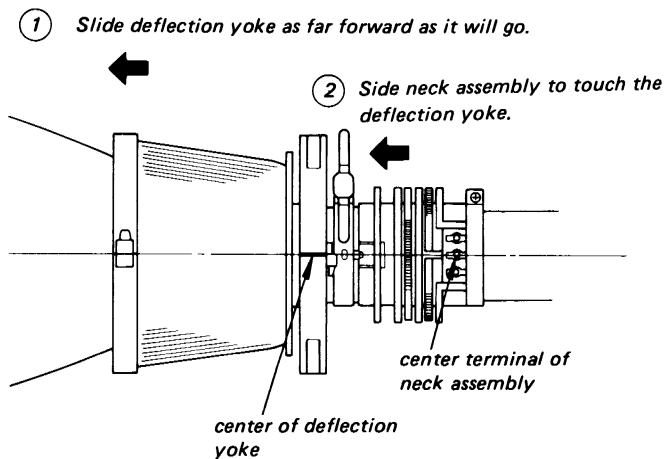

Fig. 3-18
- (3) Position the red neck assembly as shown in Fig. 3-18.